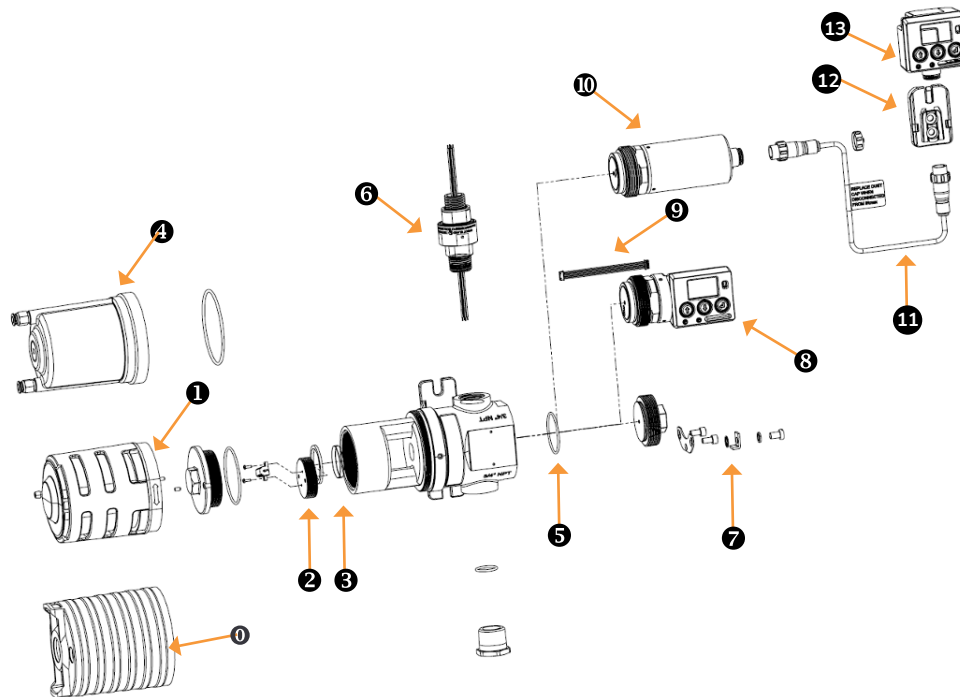

Figure 2: IR Plus exploded view
The display enables both local and remote monitoring of readings from the IR Plus. It can be directly attached to the IR Plus or connected via an Intrinsically Safe (IS) Barrier module using temporary or permanent cabling. Figure 2 illustrates the available options.
For more information about other accessories for the IR Plus, please refer to Figure 2.
- The retaining plate (item 7 on Figure 2) must be securely fitted to prevent any risk of the rear nut (or Fixed Display or IS Barrier module accessory) vibrating loose.
- Carefully remove the outer section of the spigot gland (Figure 2)